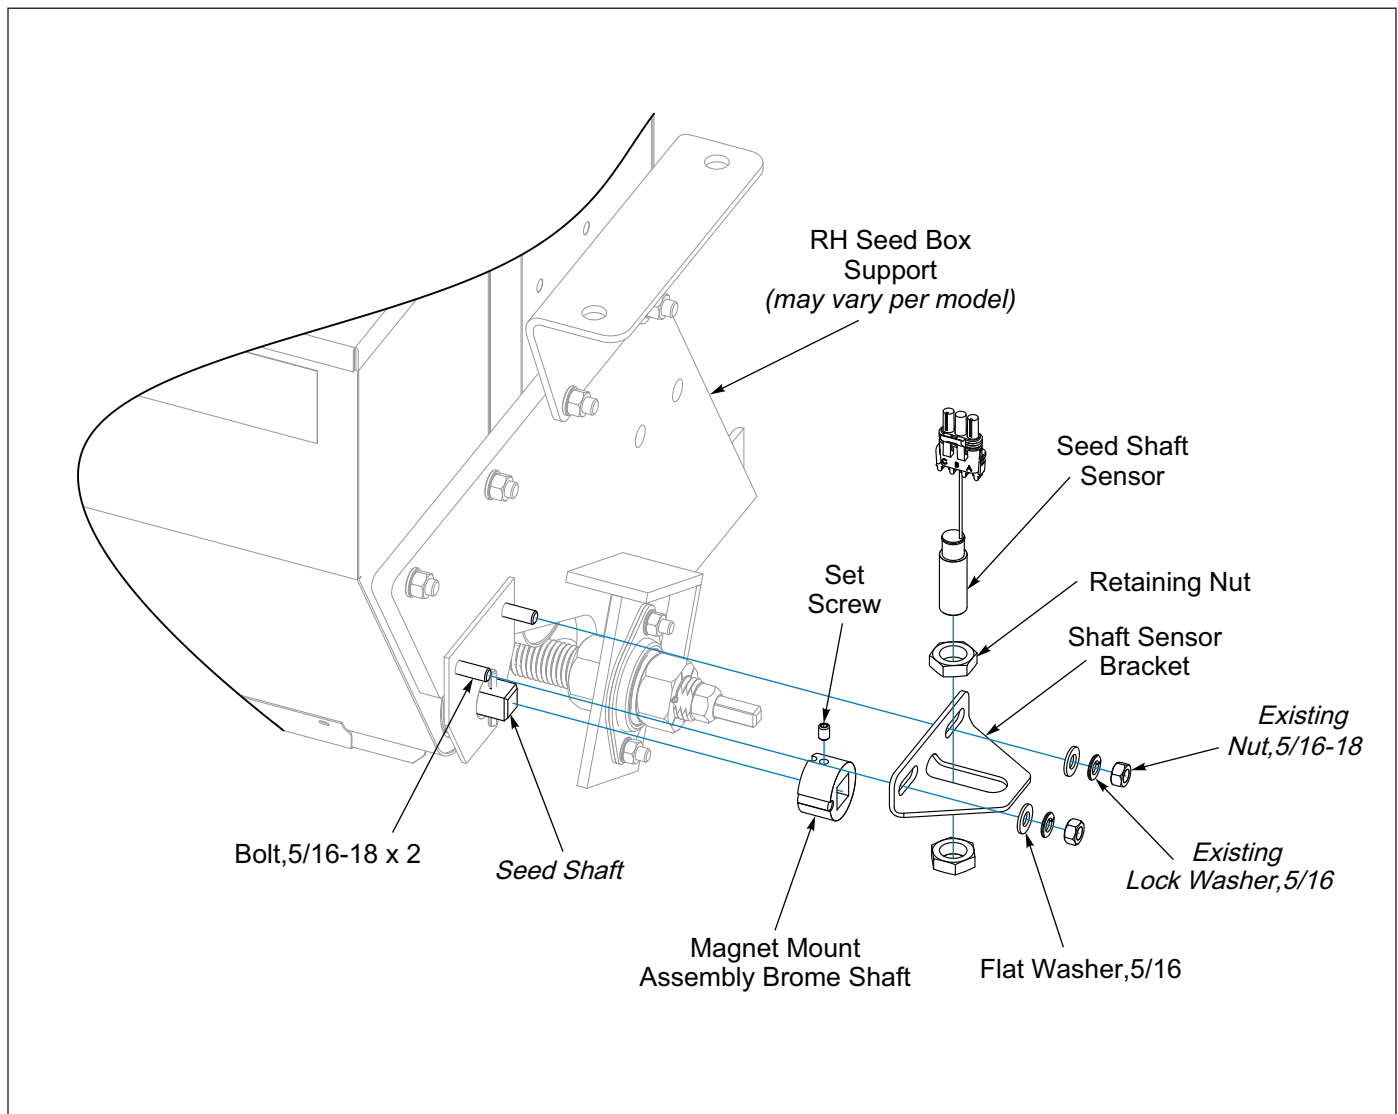

Figure 2-49: Console w/Clutch Control RH Rear Seed Box Seed Shaft Sensor
8. On the right hand side of Seeder, slide Magnet Mount Assembly onto Seed Shaft, ensure groove is aligned with Seed Shaft Roll Pin. Secure Set Screw to Seed Shaft. **See Figure 2-49.**